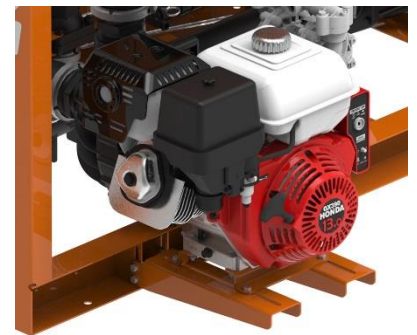

Figure 4.5-Honda Motor w/ Pump
1. Attach Motor to mount. (Figure 4.5)